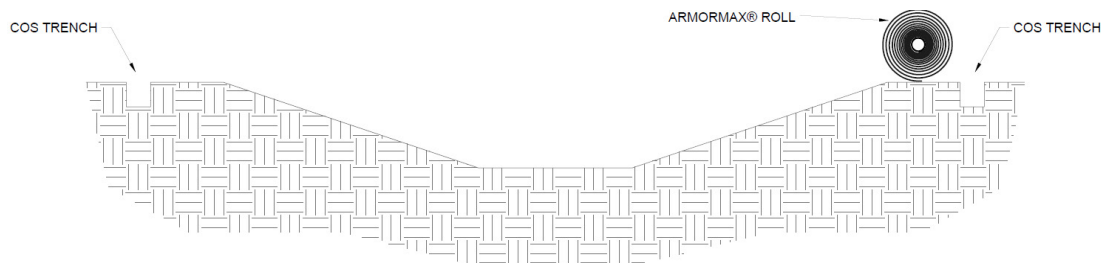
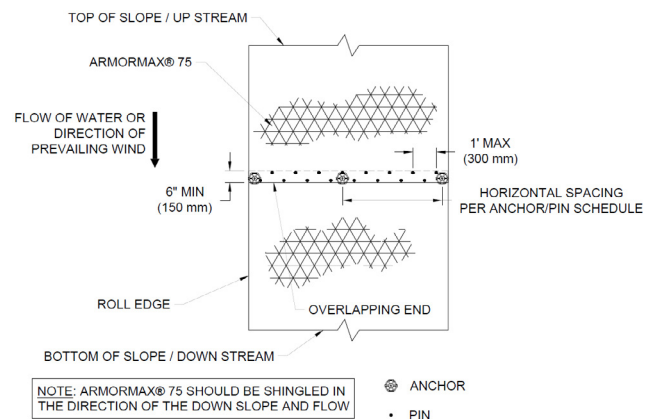

Figure 7: Crest of Slope (COS) Trench Alignment
Figure 12: Roll End Overlap
6. Place the next HPTRM panel by laying the roll so that the roll end points towards the COS trench (Figure 7), with a 3 in (75 mm) overlap created at adjacent panel edge locations. Ensure that adjacent panel edges maintain a minimum 3 in (75 mm) overlap during **PROPEX** Armormax laydown (Figure 12).
- Roll ends shall be overlapped a minimum of 6 in (150 mm) with upstream panel on top. Secure roll end overlaps with two rows of pins staggered 6 in (150 mm) apart on 12 in (300 mm) centers and with one row of anchors on 4 ft (1.2 m) centers (Figure 12)